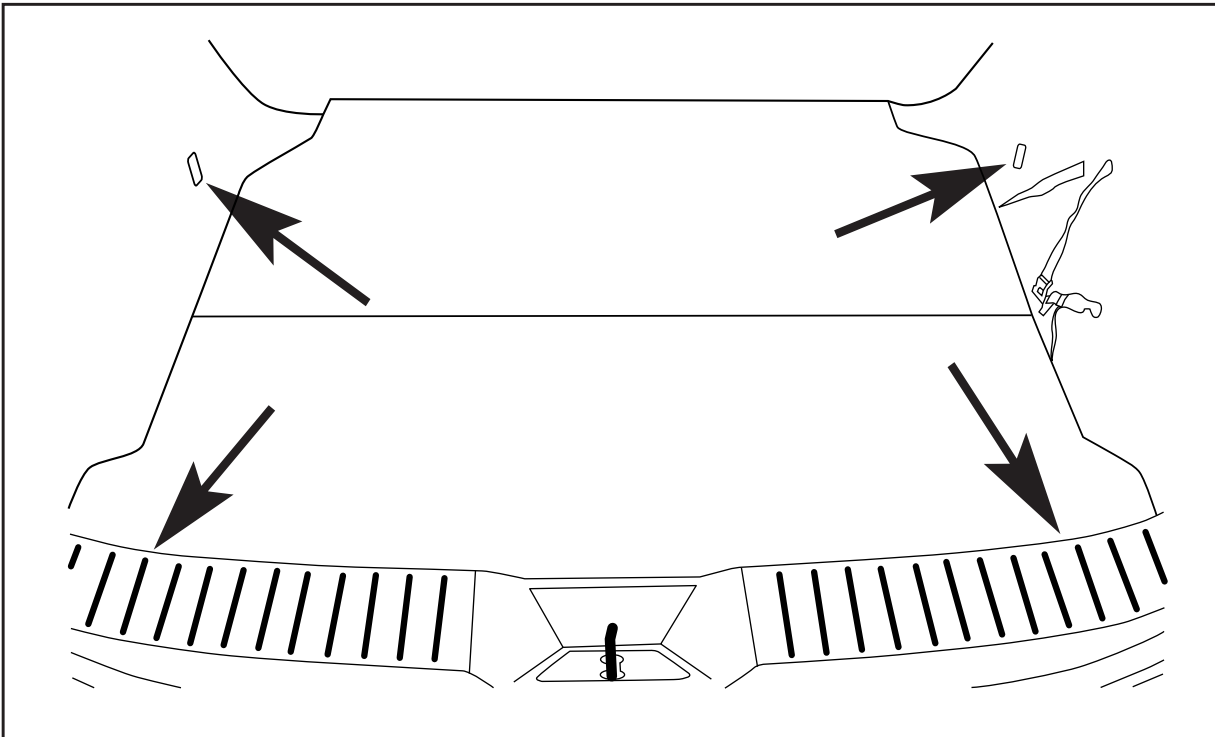

Fig. 1
2. Locate the four mounting locations as indicated by the arrows (Fig. 1).